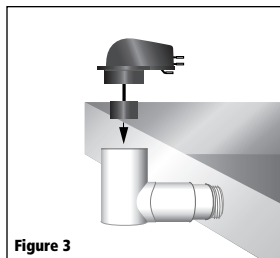

Figure 3
3. Press fit Float Switch into 1" opening at top of Ell. **DO NOT USE GLUE**. (**Figure 3**).